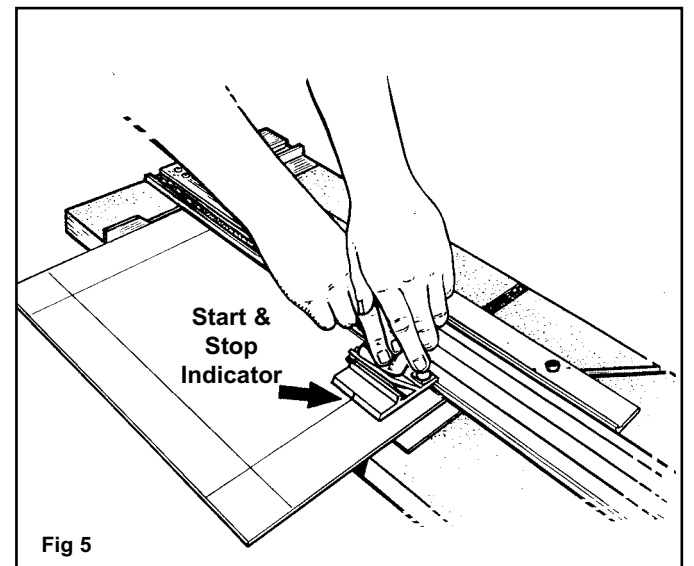

Fig 5
8. With the left hand, depress the Anti-Crawl Pin and firmly pivot the Blade Holder down into the mat. **Fig . 5**
7. Release the anti-crawl pin and pull the bevel cutting head towards you until it gently contacts the guide rail stop. **Fig 5**